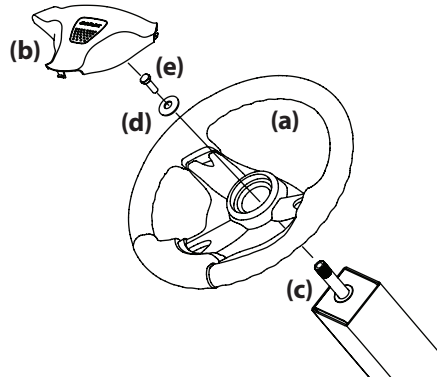

Figure 2-8
- Remove the hardware for attaching the steering wheel (a) from beneath the steering wheel cover (b). Carefully pry off the steering wheel cover (b) to remove the hardware. See Figure 2-8.
- With the wheels of the tractor pointing straight forward, place the steering wheel (a) over the steering shaft (c). See Figure 2-8.
- Place the steering wheel cover (b) over the center of the steering wheel (a) and push downward until it "clicks" into place. See Figure 2-8.